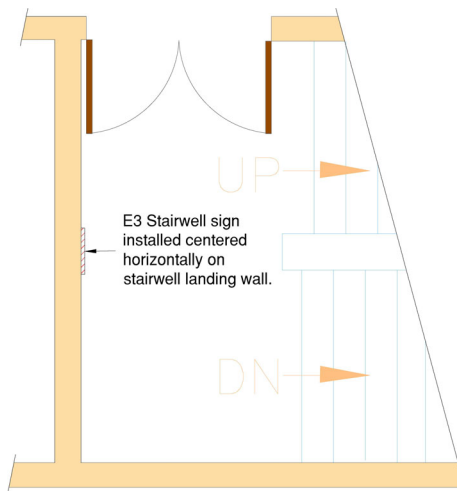

Figure 33.4.1
- 33.4. E3 fire code informational signs sign installations at stairwell landing entrance doors shall comply with figures 33.4.1 and 33.4.2.